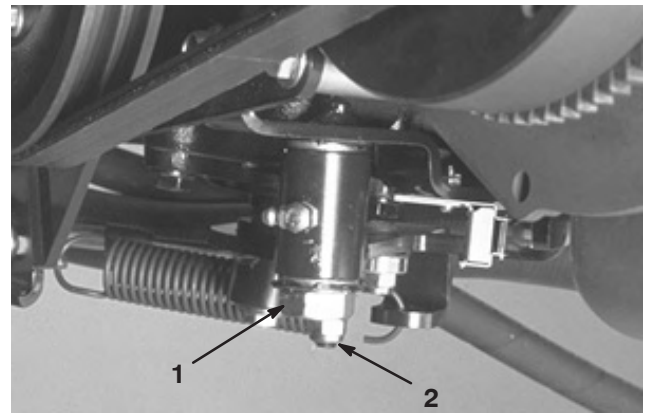

Figure 50
3. Loosen the locknut on the traction adjustment cam (Fig. 50).